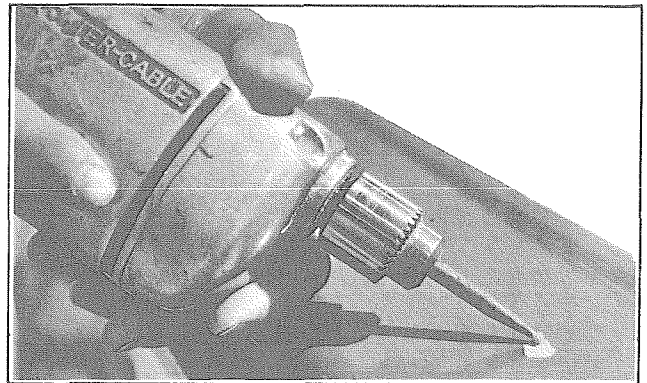

Figure 2J-1. Roughing Damaged Area
2. Roughen the bottom and sides of the damaged area, using a power drill with a burr attachment. Feather the edge surrounding the scratch or gouge, being careful not to undercut this edge. See Figure 2J-1.
3. A small amount of gel coat, the same color as the finish should be placed in a small can lid or on a piece of cardboard. Use just enough to fill the damaged area. If damage has penetrated through to fiberglass material, an equal amount of fibers, which can be taken from glass mat and shredded into small fibers, should be mixed with the gel coat - using a putty knife or flat stick. Add three drops of catalyst per teaspoon of gel coat using an eye dropper. Be sure to mix the catalyst thoroughly for maximum working time. Maximum working time (pot life) will be about 15 to 20 minutes at which time it begins to "gel". See Figure 2J-2.